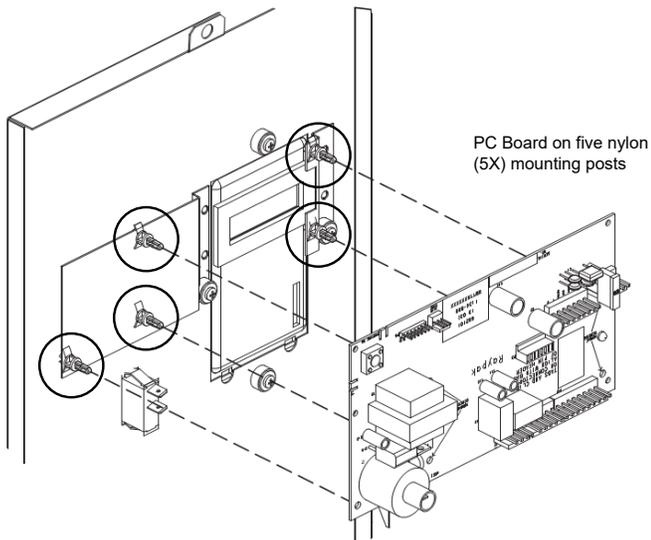

Figure 13. Remove PC Board
10. Carefully pull the PC Board off the nylon mounting posts (see **Figure 13**).